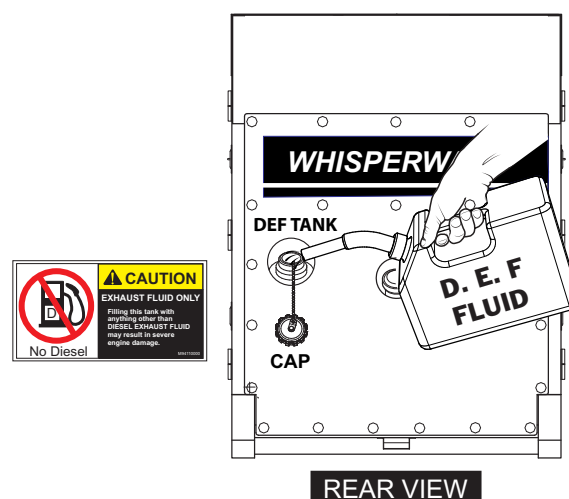

Figure 43. DEF Tank Filling
2. Remove the filler cap from the DEF tank (Figure 43).